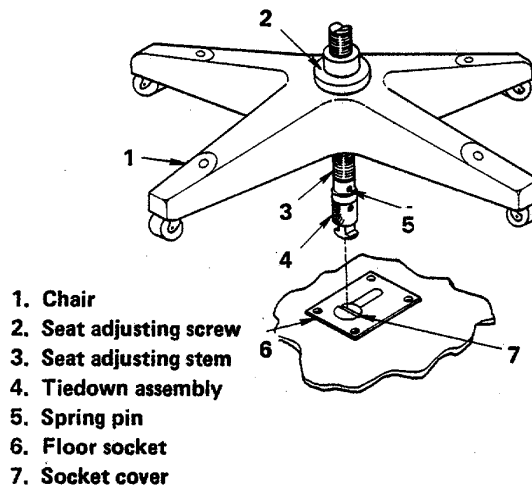

Figure 2-3. Rotary Chair
- (8) Record new combination in accordance with local security policy.
**2-10 ROTARY CHAIR.** Release chair by pushing tiedown assembly into floor socket to release. Adjust height with seat adjusting screw (figure 2-3).